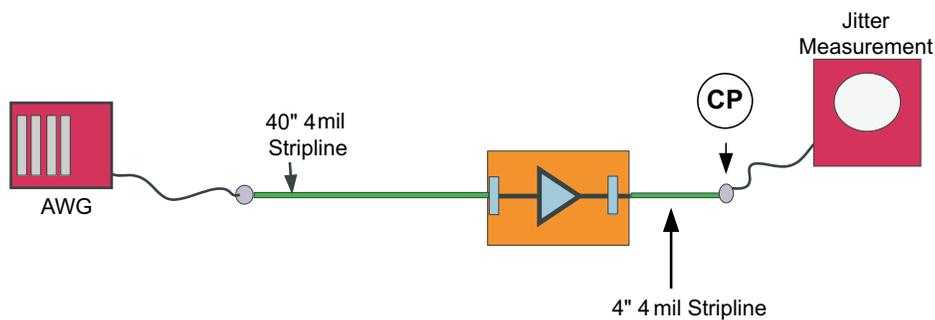

Figure 6. Jitter Measurement Test Condition
(1)  $T_J = (14.1 \times RJ_{SD} + DJ)$  where  $RJ_{SD}$  is one standard deviation value of RJ Gaussian distribution. Jitter measurement is at the CP connector and includes jitter generated at the package connection on the printed circuit board, and at the board interconnect as shown in Figure 6.